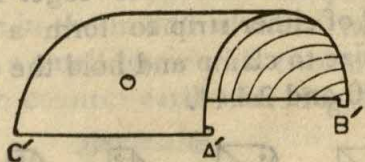

FIG. 2.4.3
3. Now bend the sheet $A'B'C'D'$ as shown in the diagram Fig. 2.4.3 by using a cylindrical wooden block and a mallet.